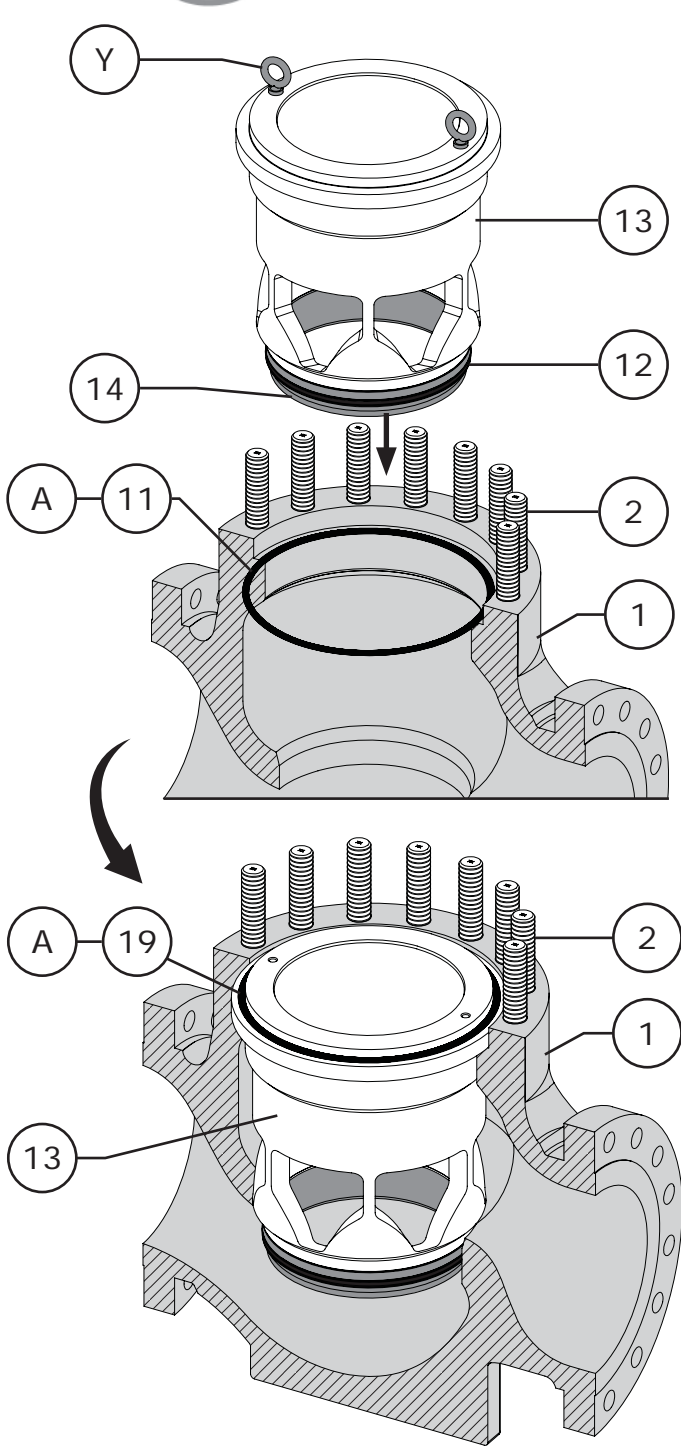

Figure 22 Trim Parts Assembly - 370 (Steps 3 - 5)
- 3 Apply anti-seize compound (Key A) to the top and bottom surfaces of the cage gasket (Key 11). Install the cage gasket as shown in Figure 22.
- 4 Install lifting bolts (Key Y) into the tapped holes of the cage (Key 13). Using the lifting bolts, carefully lift and lower the cage/seal ring assembly (Keys 12, 13, & 14) into the valve body as shown in Figure 22. Remove the lifting bolts once cage/seal ring is in position.
- 5 Apply anti-seize compound to the top and bottom surfaces of the bonnet gasket (Key 19). Install the bonnet gasket as shown in Figure 22.